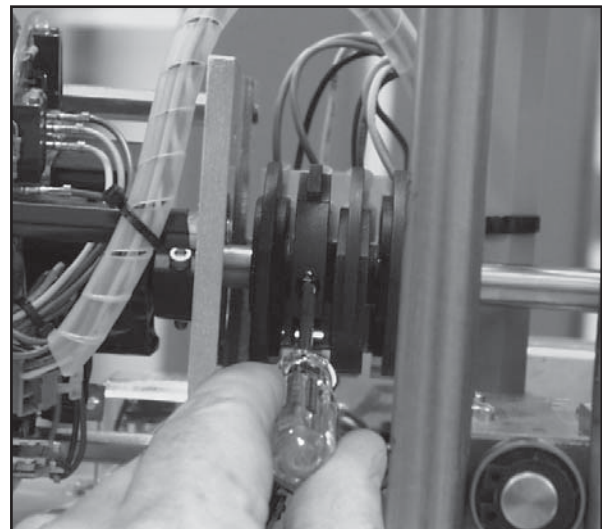

Figure 5
2. Use the electric Handswitch to actuator the control shaft so that the EXT switch cam is accessible. Using a 7/64" hex wrench, loosen the screw so that the cam is just snug to the shaft. See Figure 5, page 22.